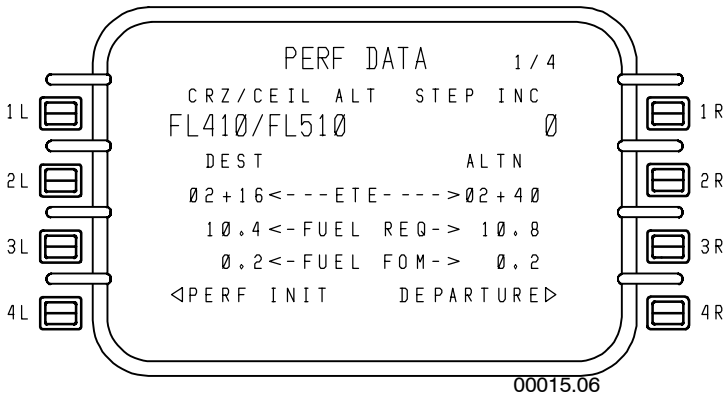

Figure 4-31
- **PERF DATA 1/4** – Figure 4-31 displays the following: